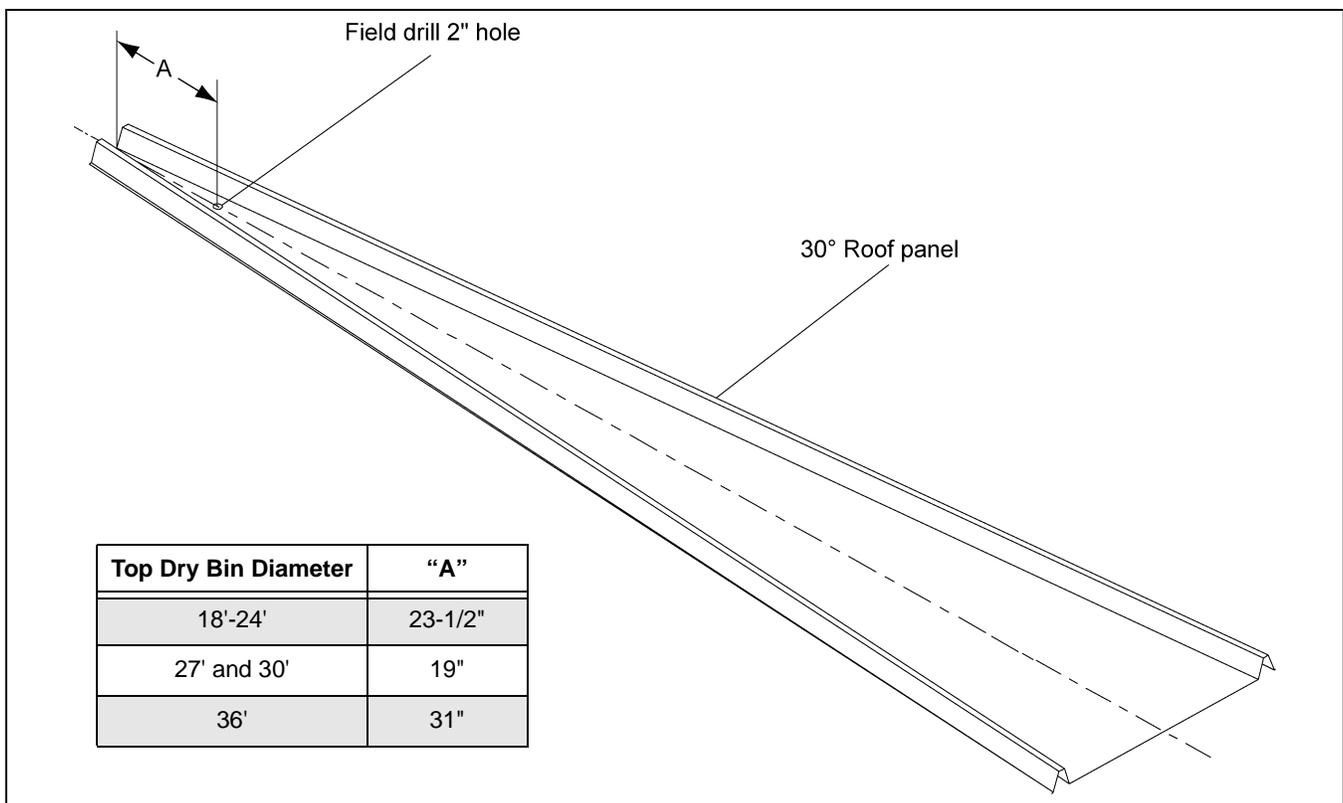
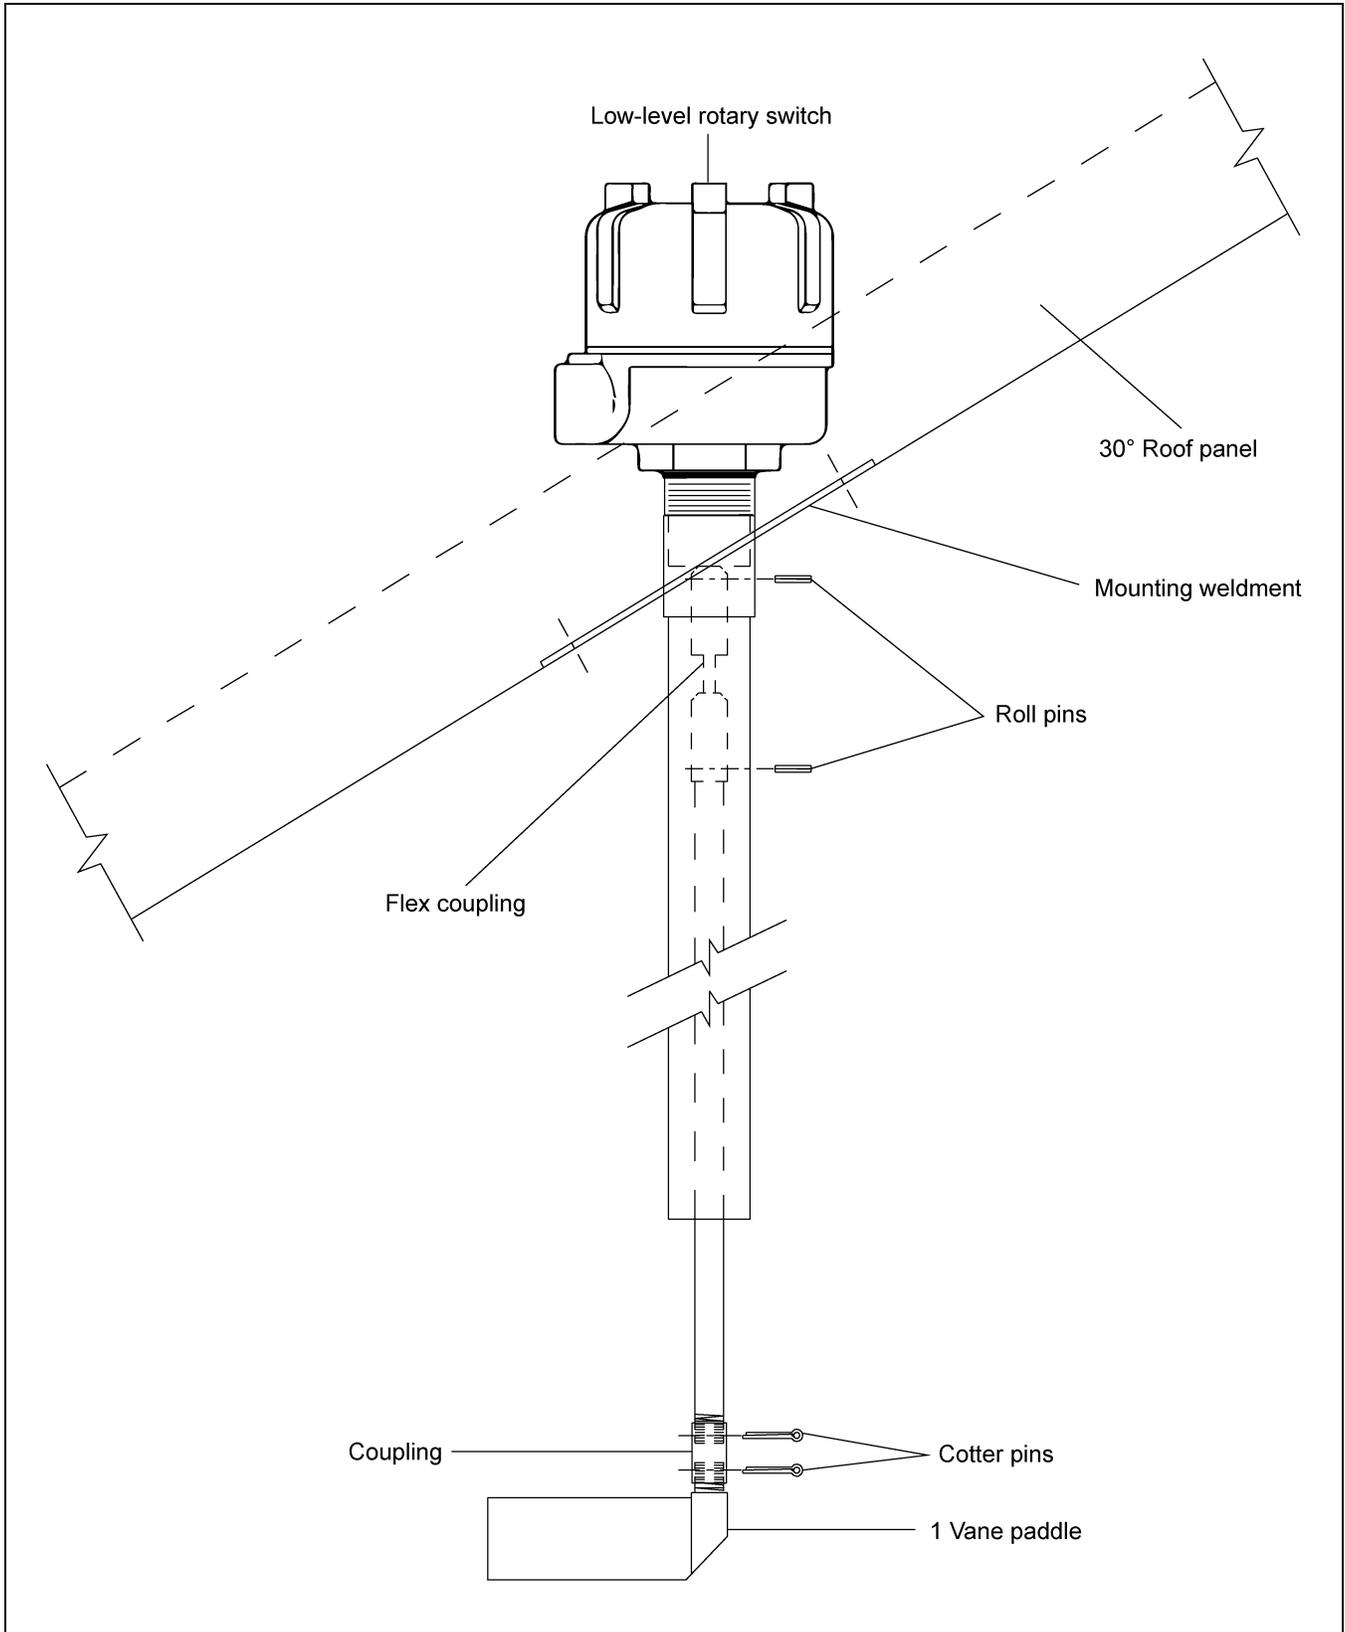
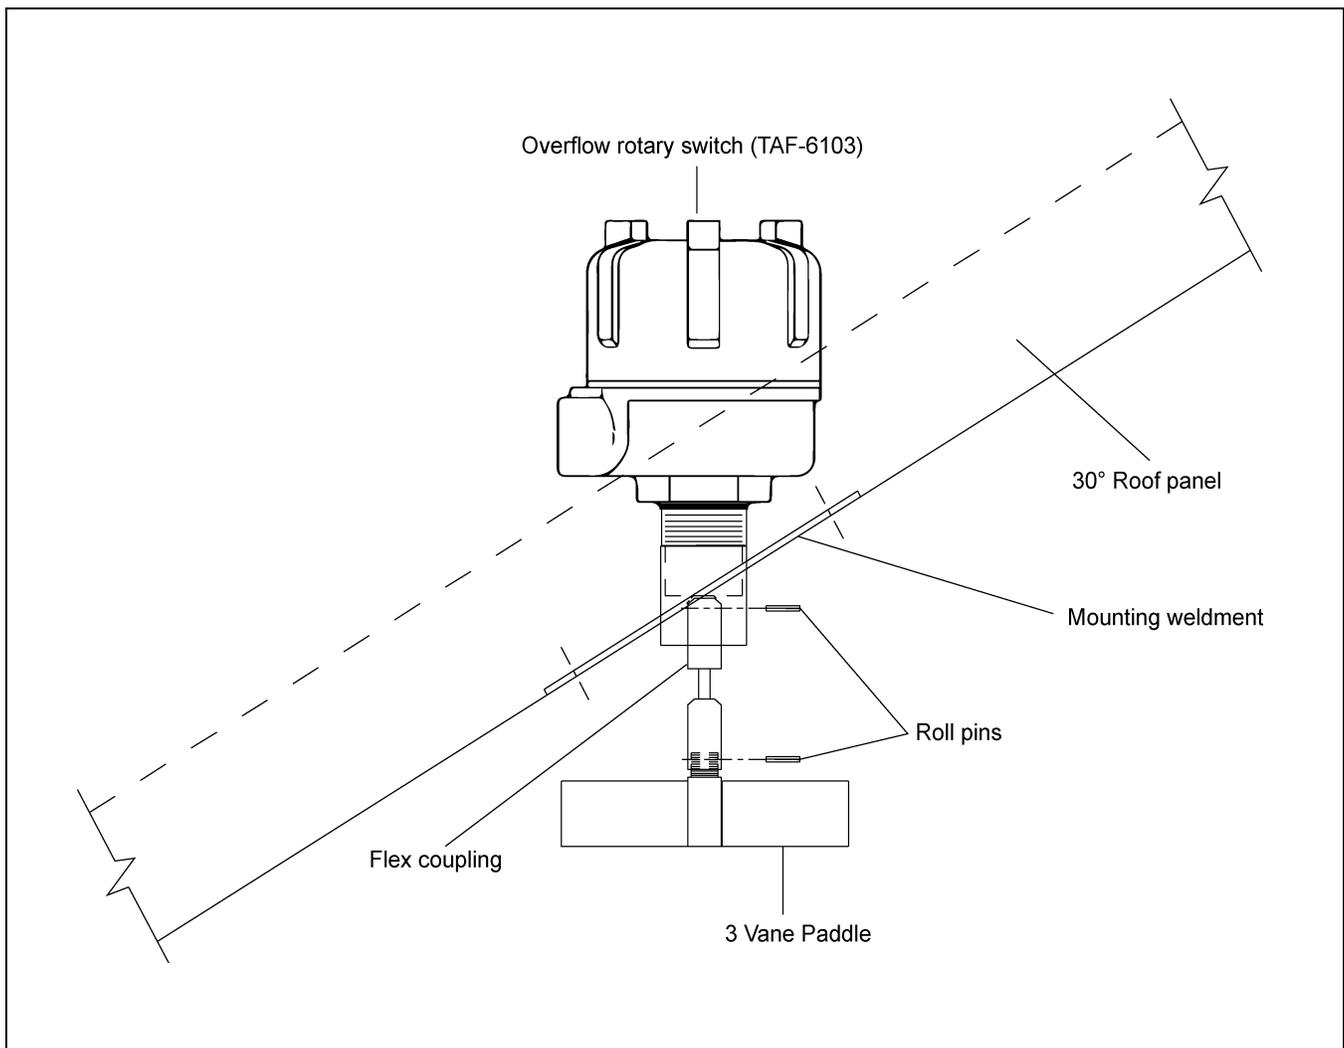

Figure 3T
Figure 3U
Figure 3W
1. Drill a 2" diameter hole through the roof panel at the location shown in Figure 3T. See component placement on Page 11 for proper placement in relation to fill auger.
2. Use the mounting plate as a pattern and drill four (4) 3/8" holes through the roof panel at the switch location so the plate can be bolted to the roof.
8. Attach the shaft extension according to Figure 3U on Page 30.
12. Attach the 1 vane paddle to the flex coupling as shown in Figure 3U on Page 30.
1. Drill a 2" diameter hole through the roof panel at the location shown in Figure 3T on Page 29. See component placement on Page 11 for proper placement in relation to fill auger.
8. Attach the 3 vane paddle to the flex coupling as shown in Figure 3W.